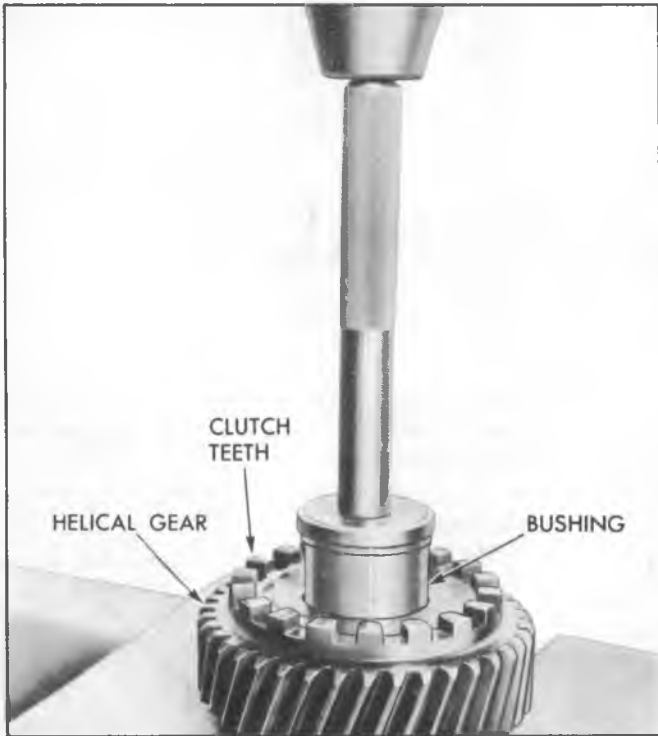

Fig. 13M--Installing Helical and Differential Side Gear Bushing With Tool J-8474
3. Remove compression spring from push rod (fig. 13M). The push rod is secured to shift fork assembly by a bolt and nut.